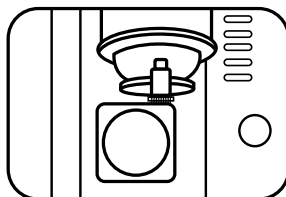

Fig. 2
- Open the gas canister cover and insert the canister so that the valve tab is aligned with the slot in the canister rim. (Fig.2)